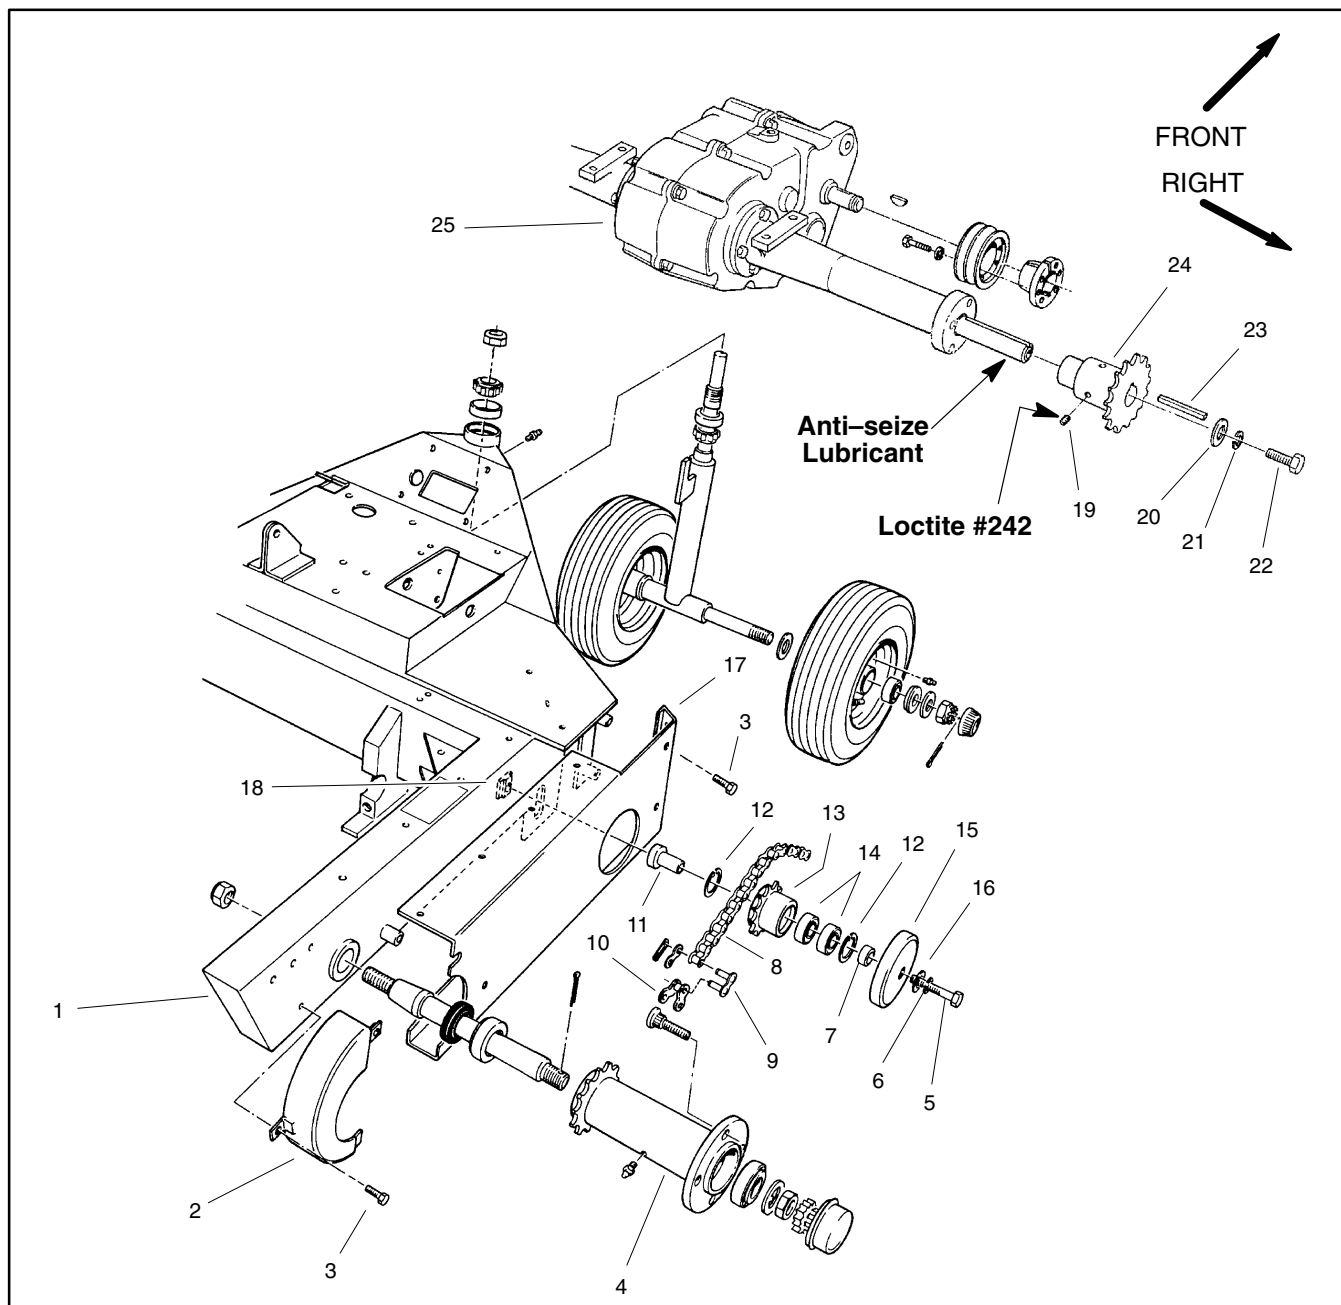
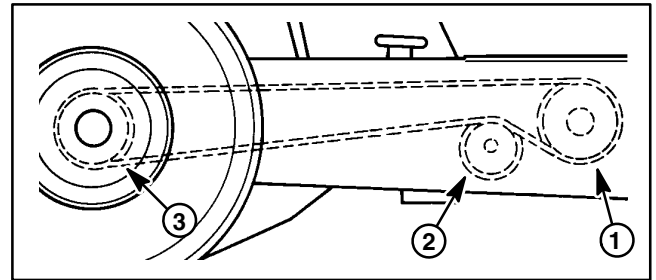

Figure 5
Figure 6
### Disassembly (Fig. 5)
4. While holding idler sprocket, remove cap screw (item 5), lock washer (item 6), flat washer (item 16) and special nut (item 18) to allow idler cover (item 15) to be removed. Reinstall cap screw, washers and special nut to retain idler sprocket.
5. Remove sprocket guard (item 2) and chassis guard (item 17) from machine.
6. Remove components as needed using Figure 5 as a guide.
### Assembly (Fig. 5)
1. Install removed components using Figure 5 as a guide.
- A. If idler sprocket was removed, attach idler to frame as shown but don't install idler cover (item 15) and leave cap screw (item 5) finger tight.
- B. If sprocket (item 24) was removed from transaxle shaft, apply antiseize lubricant to transaxle shaft before installing sprocket. Install and tighten cap screw (item 20), lock washer (item 21) and thrust washer (item 22). Slide sprocket out to installed thrust washer. Apply Loctite #242 (or equivalent) to set screws (item 19) and install set screws to secure sprocket.
2. Position drive chain to sprockets (Fig. 6). Install master link to chain. Lubricate chain.
3. Install chassis guard (item 17) and sprocket guard (item 2) to machine.
4. While holding idler sprocket, remove cap screw (item 5), lock washer (item 6), flat washer (item 16) and special nut (item 18) and then install idler cover (item 15). Reinstall cap screw, washers and special nut. Make sure that special nut is correctly positioned in slot in frame.
6. Install rear wheel assembly with valve stem facing out. Secure wheel to machine with four (4) lug nuts. Torque lug nuts from 65 to 90 ft-lb (88 to 122 N-m).